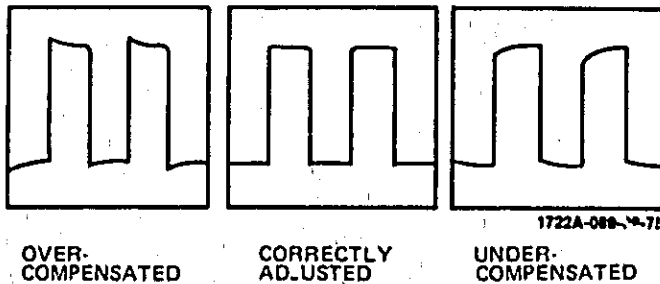
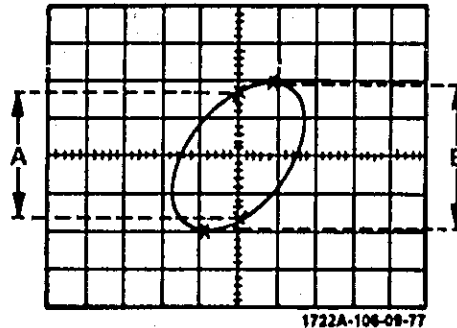

Figure 3-2. Divider Probe Adjustment Display
Figure 3-3. X-Y Waveform
- f. Adjust divider probe compensation for correct display (see figure 3-2).
**3-31. X-Y PHASE MEASUREMENTS.** The X-Y horizontal display mode provides a method of measuring phase differences between two signals of the same frequency (up to 3 MHz). In this mode, one input signal provides deflection along the horizontal (X) axis; the other input signal provides deflection along the vertical (Y) axis. The phase angle can be determined from the resulting Lissajous pattern. There are other uses for this mode, such as, establishing a horizontal sweep from a free-running sweep oscillator.
- g. Measure distances A and B as shown in figure 3-3.